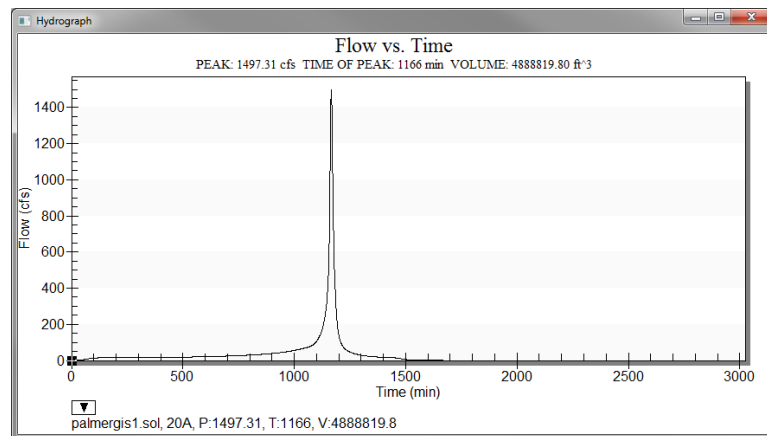

Figure 9 Solution hydrograph for MODRAT simulation
8. Using the **Select hydrograph** tool, double-click on the hydrograph icon next to outlet “20A” to bring up the *Hydrograph* dialog (Figure 9).